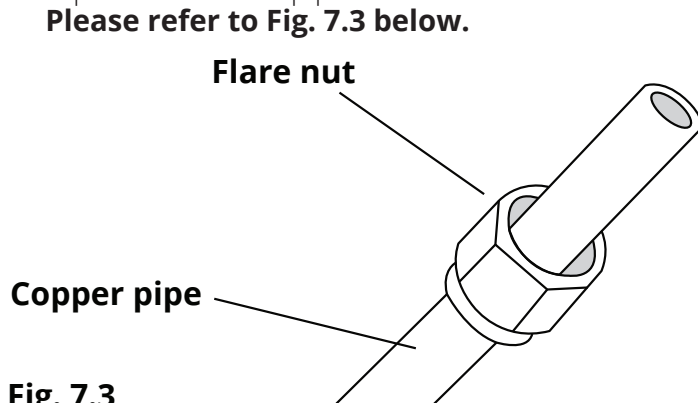

Fig. 7.3
3. Place flare nuts on both ends of the pipe. Ensure each of the nuts is facing in the correct direction. Their direction cannot be changed nor can they be replaced once the pipe end has been flared. **Please refer to Fig. 7.3 below.**